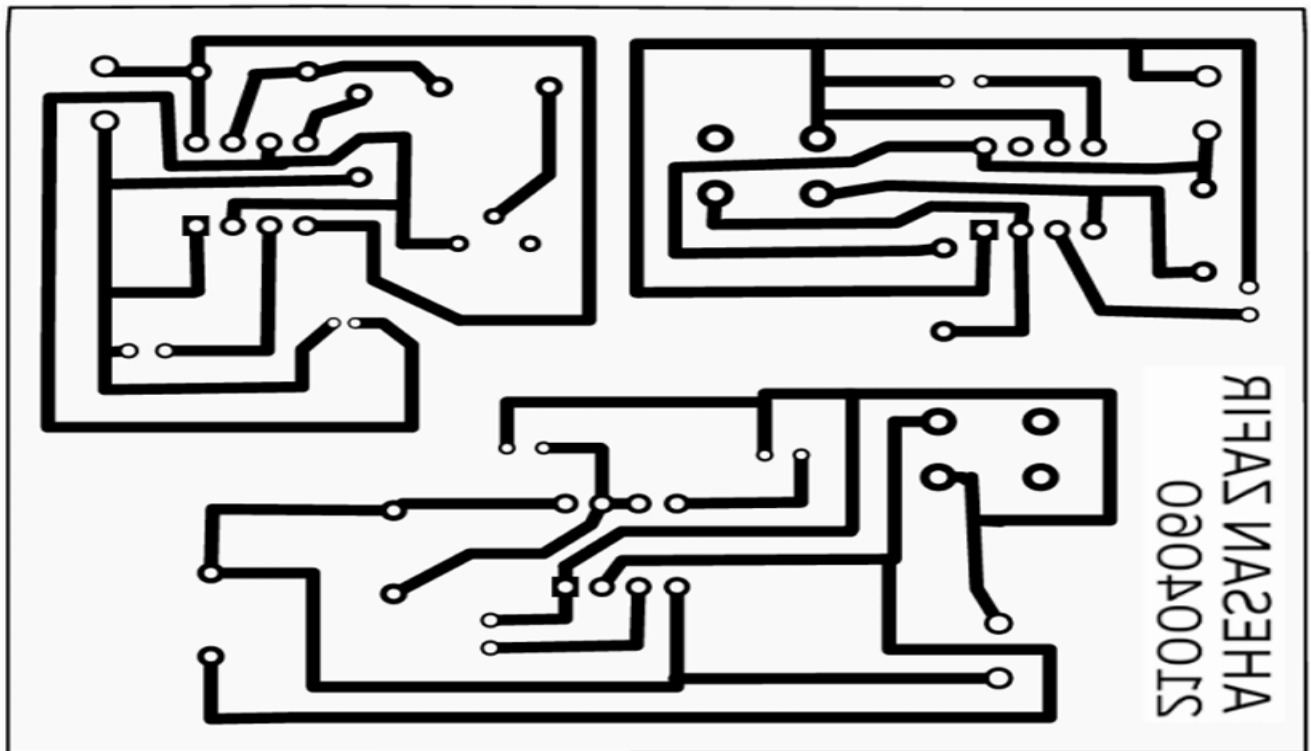

Figure 12
**Gerber File Generation:** Finally, the completed PCB layout is exported as Gerber files, which contain all the necessary information for manufacturing the PCB. Gerber files include detailed instructions for the PCB fabrication process, including the placement of component pads, traces, and solder mask layers. . Refer figure 12 for circuit Layout.